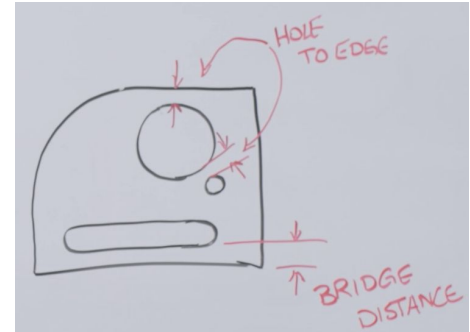

Figure 1.1
- **Bridge Distance:** The minimum material width between two parallel cut lines, such as between a slot and an edge. Even though we cut one line at a time, this region absorbs high energy. (see Figure 1.1).
- **Hole-to-Edge Distance:** The minimum distance from the edge of a hole to the nearest edge or another feature (see Figure 1.1). Because heat exposure is shorter in these tangent areas, the requirement differs slightly from bridge distance. If either distance is too small, excess heat or stress can cause parts to fail, much like blowing a fuse.